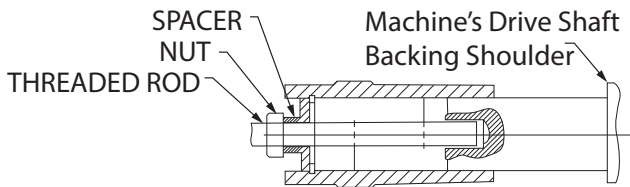
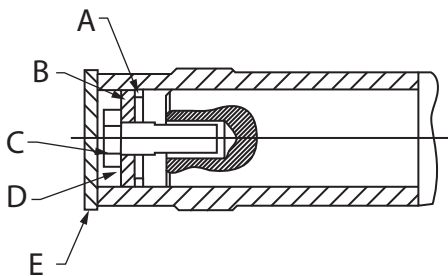

Figure 4 – Threaded Rod and Nut Assembly
Figure 5 – Finished Assembly
Check that the reducer coupling half, with its key in place, is mounted on the reducer input shaft inside the C-face adapter. Make sure this coupling half is mounted on the reducer shaft such that the shaft extends the complete length of the coupling bore. Insert the coupling spider properly into the coupling jaws.	<ol style="list-style-type: none"> 1. Discard the motor key and replace it with the special key provided. DO NOT USE THE MOTOR KEY. 2. If the special key does not fit snugly in the motor shaft keyway, prepare the key for assembly by nicking its bottom in a couple of spots. A chisel may be used to accomplish this. This must be done on a work surface away from the Quantis unit and the motor. This nicking should widen the key bottom and cause it to fit snugly in the motor keyway. Refer to Figure 5 for definition of key bottom. 3. Install the key in the motor shaft keyway by lightly tapping it in place with a rubber mallet. 4. Locate the key so that it sits flat in the motor shaft keyway. The key will probably extend beyond the end of the motor shaft. This is okay. The key MUST NOT sit tilted in the keyway. A tilted key can occur when a motor shaft has a sled runner keyway, Refer to Figure 5. 5. Mark the clamp collar with a fine tipped marker on both sides of the setscrew to indicate where the center of the set screw is located. Run a line down both sides of the clamp collar that line up with the line previously created. 6. Remove the socket head screw and set screw from the clamp collar and apply Loctite 243 thread locker. Reinstall the screws into the clamp collar. Install the clamp collar onto the reducer input shaft and line up the mark previously made on the clamp collar with the center of the keyway in the shaft. If the clamp collar rotates freely, tighten the clamping screw slightly to keep it from rotating during assembly. Make sure the marked line is pointing to the center of the keyway.
All shaft mounted gearboxes are furnished with A) Retaining Ring B) Keeper plate C) Retaining Bolt D) Spring Washer E) Dust Cap and Anti-Seize as shown in the finished assembly, Figure 5. Apply the anti-seize onto the customer shaft before installing reducer onto the shaft. The gearbox is pulled onto the shaft by means of a threaded rod and nut assembly as shown in Figure 4 below. The threaded rod and spacer are not supplied. The threaded rod (M) is specified in Table 5 or 6. After the gearbox has been pulled completely onto the machine shaft firmly against the machine shaft's backing shoulder, it must be locked in place with the retaining bolt tightened to the tightening torque shown in Table 4.